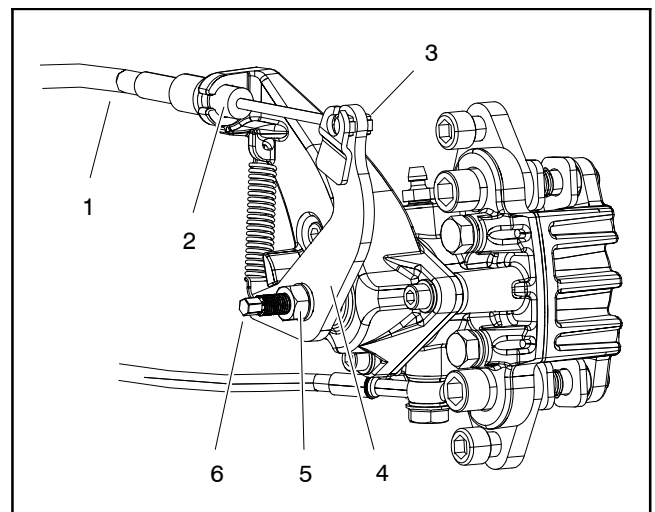

Figure 17
4. Disconnect parking brake cable from rear brake caliper (Fig. 17):
B. Loosen parking brake adjustment by loosening lock nut and then loosen parking brake rod two (2) turns.
- C. Carefully separate brake line from caliper. Locate and retrieve two (2) banjo washers from sides of brake line fitting.
6. Remove two (2) socket head screws that secure the brake caliper to the mounts on the transaxle tubes.
4. Connect parking brake cable to rear brake caliper (Fig. 17):